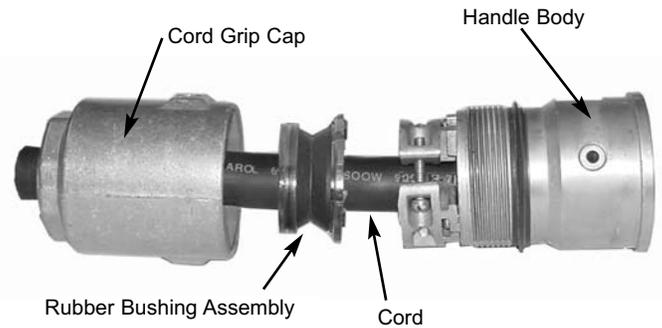

Figure 2
1. Slide cord grip cap, rubber bushing assembly and handle body onto cord. See Figure 2.